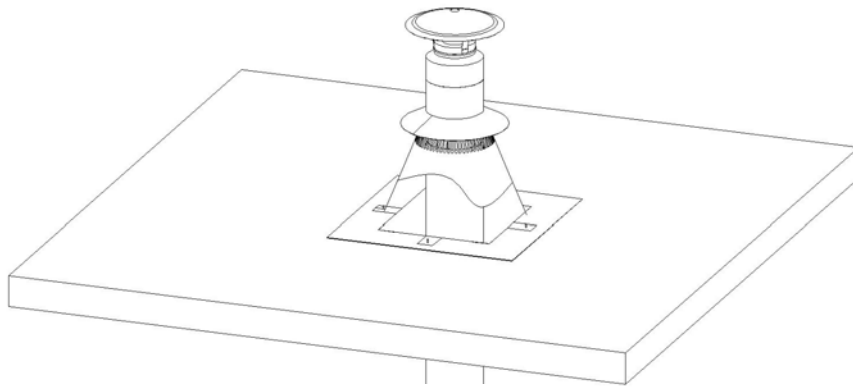

Fig 25
**5. Complete Chimney:** Attach the Chimney Sections as in Step 7 in the Ceiling Supported Installation section (page 7). Secure the chimney to the wall with Wall Straps at a minimum of 8-foot intervals and maintain at least 2 inches of clearance to combustible materials. Slip the Wall Straps around the chimney, tighten the bolts, adjust the clearance, and fasten the Wall Straps to the wall. Once the chimney is at the minimum height specified in Figure 1, attach the Chimney Cap onto the top of the chimney by holding it by the collar and twist locking it clockwise onto the Chimney Pipe. If the chimney penetrates an overhang, frame for at least 2 inches of clearance, and install Flashing and Storm Collar as described in Steps 9 & 10 for Ceiling Supported Installations (page 8). Another option is to cut away the overhang for a 2-inch clearance (Fig 25). If the chimney extends more than 5 feet above the top Wall Strap or Flashing, use a Roof Brace.